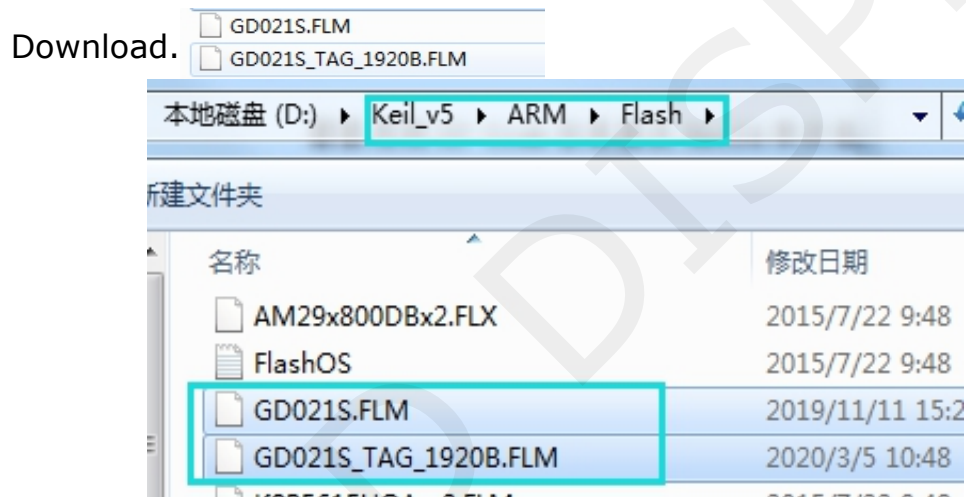

Figure 4 : Flash File Address
2) Flash file needs to be put under the root catalogue of Keil5 Download when first use as shown in figure 4. Then add these two models to the Keil5 Flash